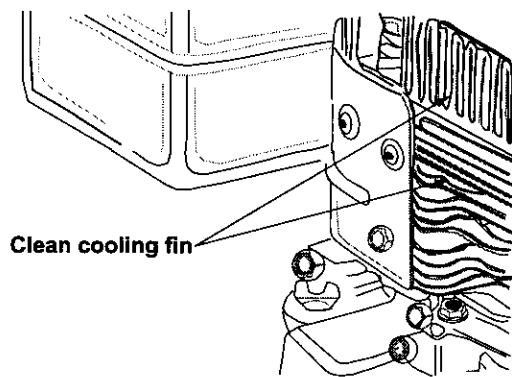

Figure 14
- Frequently remove grass clippings, dirt and debris from cooling fins, air intake screen and levers and linkage. See figure 14. This will help ensure adequate cooling and correct engine speed.
- Yearly or every 25 hours, whichever occurs first, remove the blower housing and clean the areas shown in figure 14 to avoid overspeeding, overheating and engine damage. Clean more often if necessary.